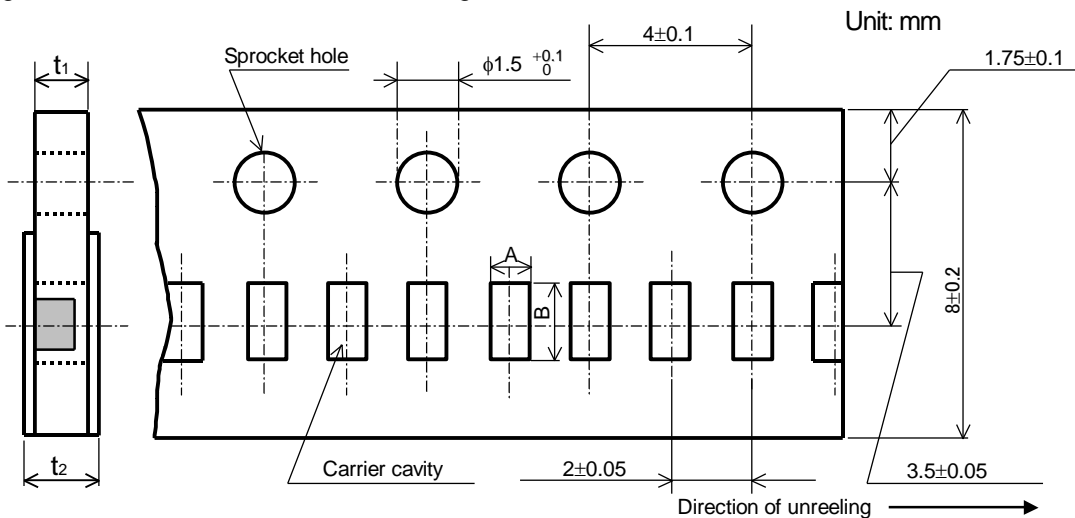

Figure-3
- Taping dimensions shall be in accordance with Figure-3 and Table-5.